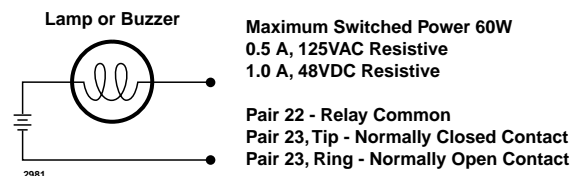

Figure 16-18 Wiring for External Critical Alarm
1. Connect pair 22 on connector block P1 to one input on the external alarm device (see Figure 16-18).